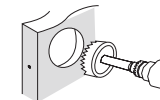

Figure 3a
- Drill 2-1/8" (54mm) hole through door face as marked for lock set (Figure 3a).
- Using a 1/16” (2mm) drill bit, drill a pilot hole in your door using the Mounting Plate upper hole as a guide (Figure 3a).